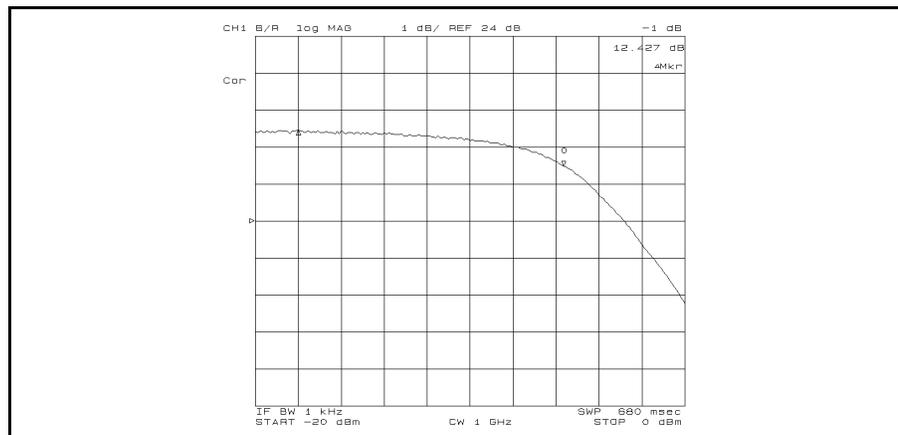

Figure 5-23. Gain Compression
9. Press **Search** **TARGET** **-1** **(X1)** to search for the point of the gain compression. (See Figure 5-23.)